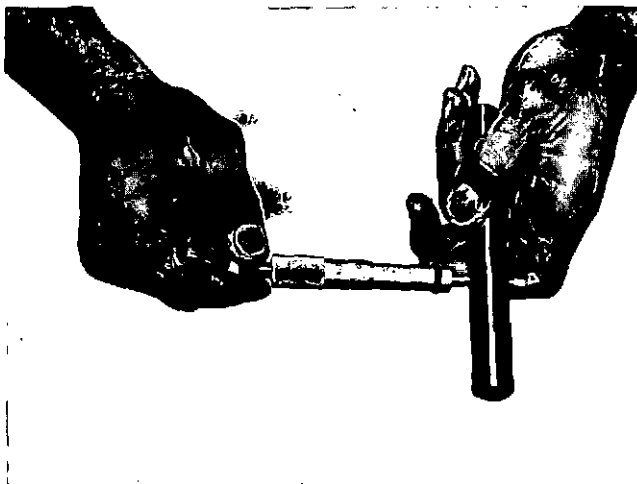

Fig. 4-5 (N10411). Measure The Cam Follower Shaft.
1. Use micrometers to measure the outside diameter of the shaft, Fig. 4-5. The shaft must measure 0.7485 to 0.7490 inch [18.012 to 19.02 mm]. Replace the shaft if it is damaged or the outside diameter measures less than 0.748 inch [19.00 mm].